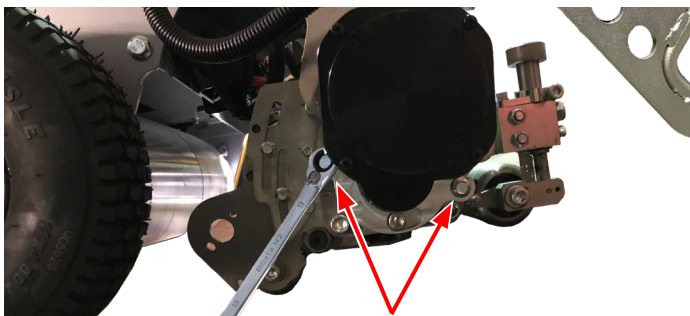

Figure 31
- Loosen and remove the two bolts holding motor to mower. See Figure 31.